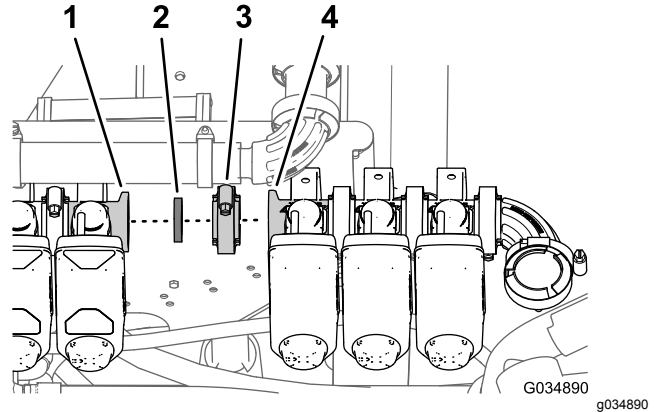

Figure 65
- Align the gasket and the flange of the left section valve (identified as nozzle-valve 8) with the flange of nozzle-valve 7 (Figure 65).
- Loosely secure the gasket and nozzle-valve 8 to nozzle valve 7 with a flange clamp (Figure 65).